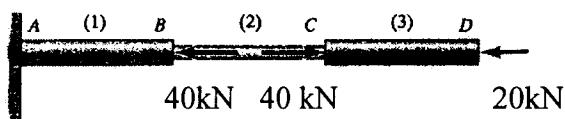

Figure 7 / Rajah 7
5. [a] The diameter of the central one-third of a 80mm-diameter steel rod is reduced to 30 mm, forming a three segment rod, as shown in Figure 7. For the loading shown, determine the axial stresses (σ_1 , σ_2 and σ_3) in each of the three respective segments.